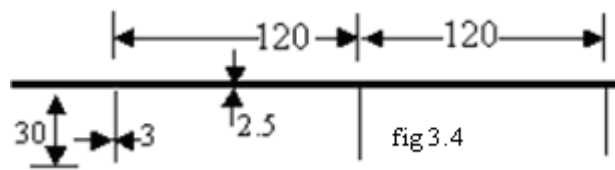

Figure 4:
- (b) Determine the buckling strength of a panel, comprising flat sheet and uniformly spaced stringers, a part of whose cross section is shown in figure 4, under uniform compressive loads. Take  $E=70\text{GPa}$  and compressive stress =  $300\text{ MPa}$ . All dimensions are in mm. [6+10]